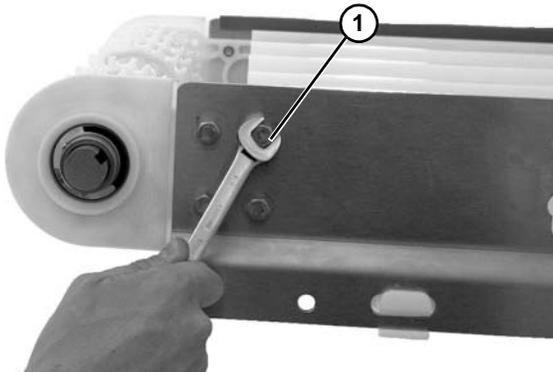

Figure 54
4. Remove the four head plate bolts (Figure 54, item 1) on both sides of the conveyor.